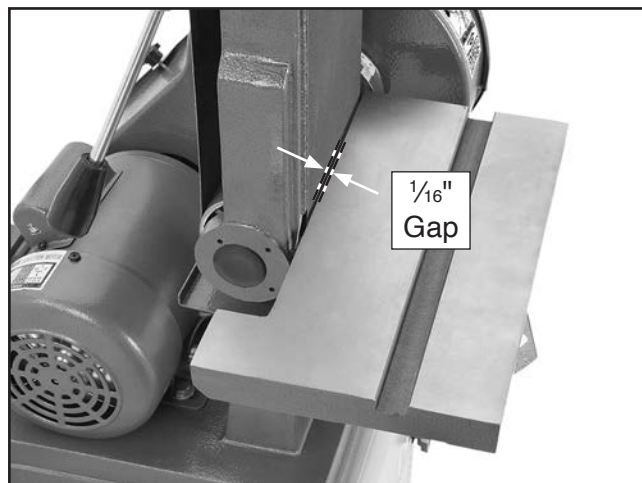

Figure 65. Correct distance between work table and sanding belt.
9. Adjust the front of the work table 1/16" away from the sanding belt (see **Figure 65**) across its entire length.